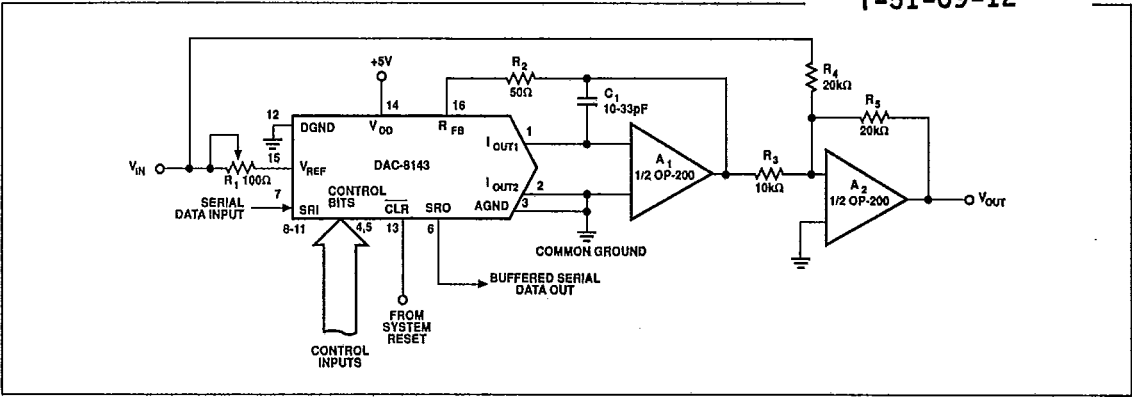

FIGURE 9: Bipolar Operation (4-Quadrant, Offset Binary)
Figure 9 details a suggested circuit for bipolar, or offset binary operation. Table 3 shows the digital input-to-analog output relationship. The circuit uses offset binary coding. Two's complement code can be converted to offset binary by software inversion of the MSB or by the addition of an external inverter to the MSB input.
- Nominal full scale for the circuits of Figure 9 is given by $FS = V_{REF} \left(\frac{2047}{2048} \right)$.
- Nominal LSB magnitude for the circuits of Figure 9 is given by $LSB = V_{REF} \left(\frac{1}{2048} \right)$.